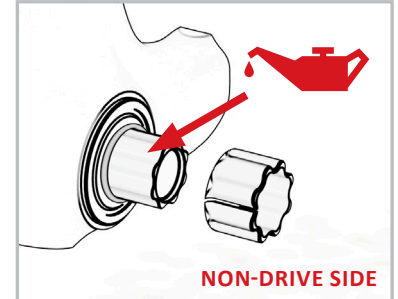
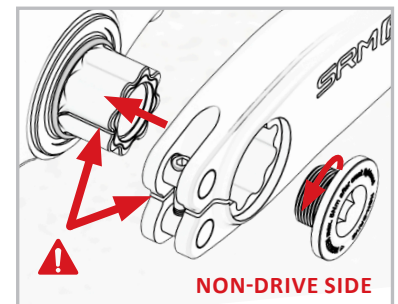

FIG. 2
FIG. 3
- Apply grease to axle and install non-drive crank reducer till it contacts the o-ring (Fig. 2). Next install the non-drive crank, making sure that the crank is rotated 180° to the drive-side crank arm. **Slits in the reducer and non-drive crank MUST be aligned (Fig. 3).**
- Apply a light thread locker (violet) to the threads of the 10mm axle bolt and tighten counterclockwise (left-handed thread) slightly with a 10mm Allen key (Fig. 3) until the spacers touch the o-ring and the crank is free of axial play.